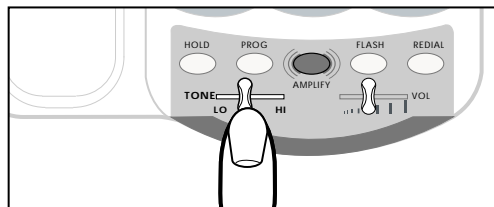

Figure 10 - Tone Slide Control
2. Adjust the **TONE** slide control as in Figure 10 to suit your hearing.